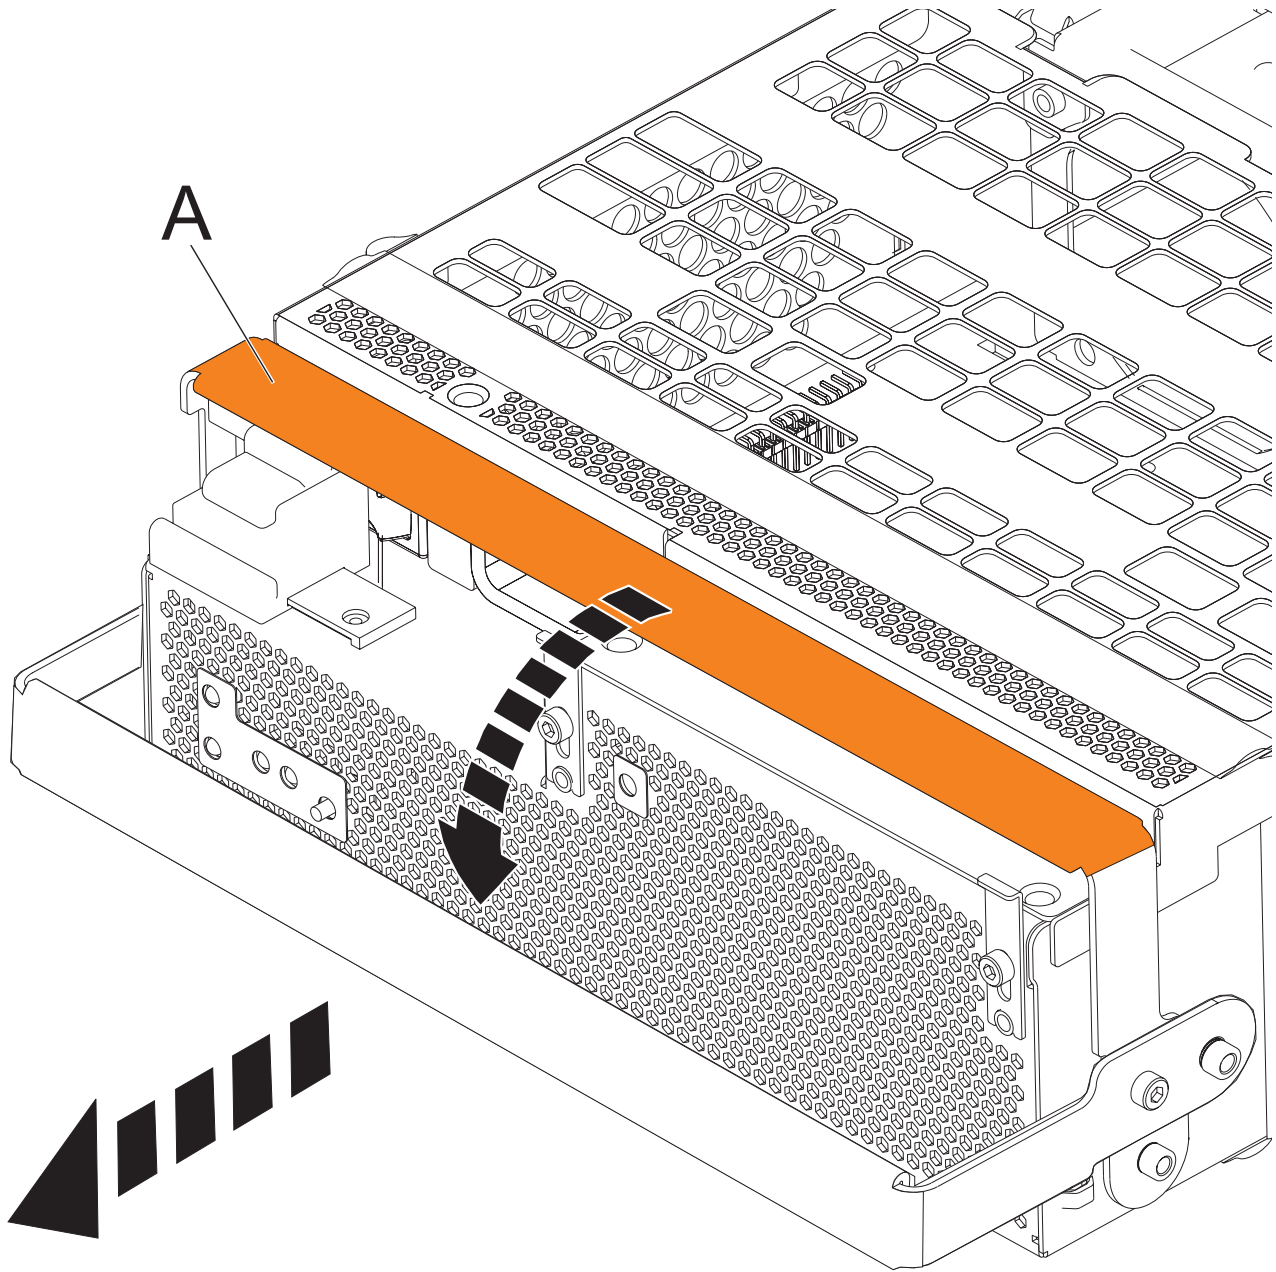

Figure 89. Remove the offline converter assemblies
- a. Pull the OCA handle (A) all the way down in the direction shown to unseat the OCA. See Figure 89 on page 106.